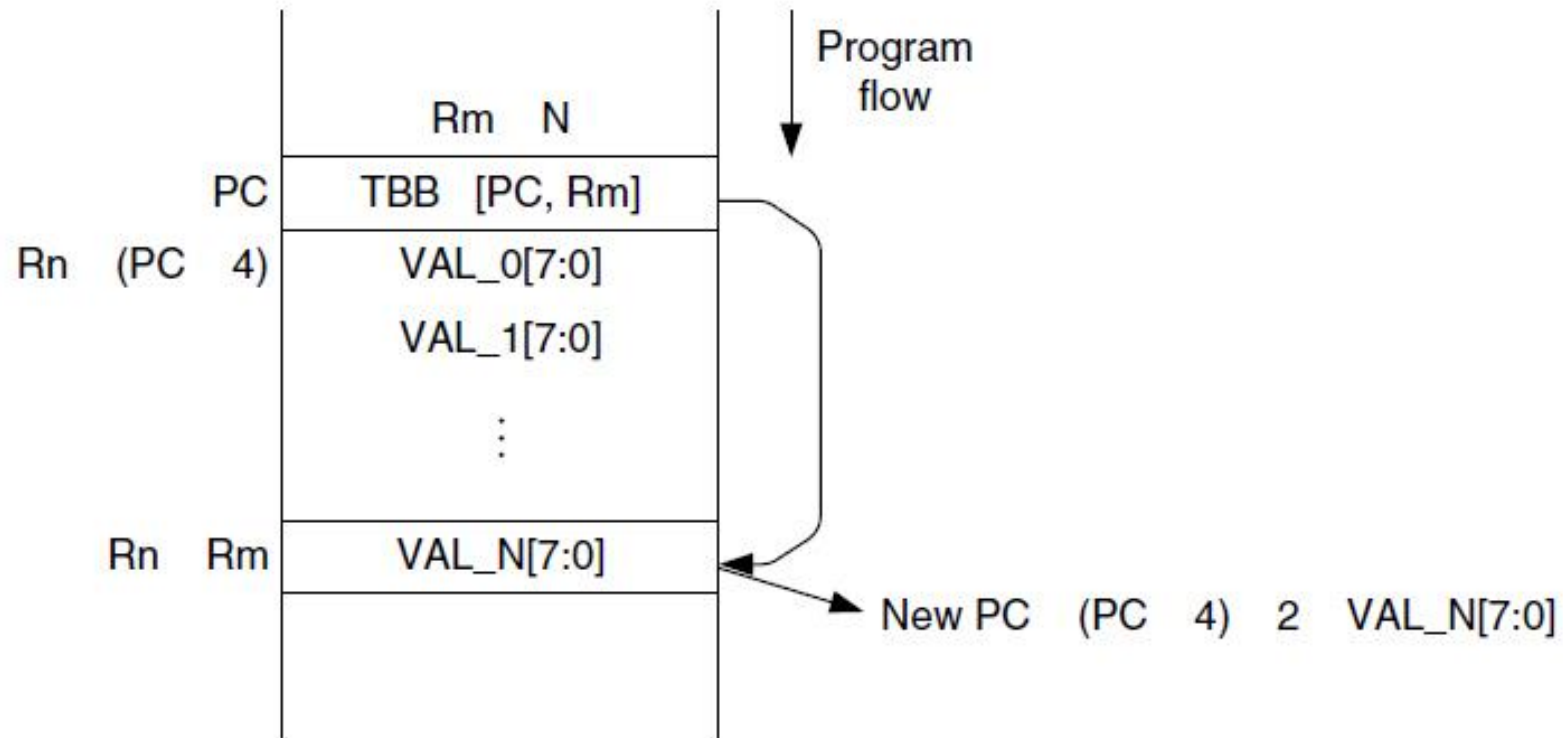

FIGURE 4.5
- Assuming we used PC for Rn, we can see the operation as shown in Figure 4.5.